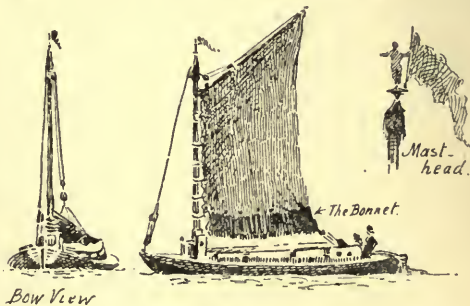
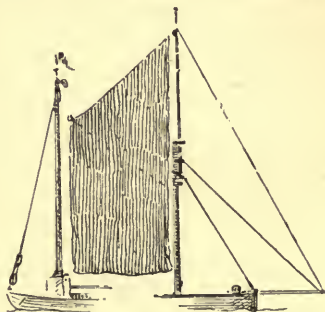

FIG. 1.
FIG. 2.—NORFOLK WHERRY.
*eye*, which is a white patch painted somewhat in the form of a boat's transom. (See fig. 1.) The wherry has one mast, and carries only one sail (being, in fact, the parent of the popular una rig), the peak of which is carried up to a great height, so that when the vessel penetrates into the upper reaches of the rivers where the trees overhang, and the banks are high, this peak may rise above them, and, by thus catching the wind, bring it down into the body of the sail, acting, in fact, in exactly the same manner as the topsail of a cutter. And, indeed, it may be shown (see fig. 2) that though the Norfolk wherry actually sets no topsail, its spread of canvas is equivalent to that of craft which do: by hiding (in the fig.) the right-hand or cutter mast we have the wherry sail; by hiding the left-hand or wherry mast, we have the main and topsail of the fishing bawley or yacht. The size of the wherry sail is also capable of increase by the addition of a *bonnet*, laced or buttoned along its foot, and always used with fair winds. (See fig. 1.) Except in this instance, the bonnet is almost obsolete. The mast of the wherry works in a *tabernacle*: it is without shrouds or any support beyond the forestay, which stay also acts as a fall for lowering and elevating it. The wherry is a very close-winded vessel, carrying a powerful weather helm, and is unsurpassed on its own waters, though experiments have shown it to be unsuccessful elsewhere. Its burden may range from 30 to 60 or more tons. It does the greater part of the carrying trade of the district; and of late years, steam has been applied to it with tolerable success.